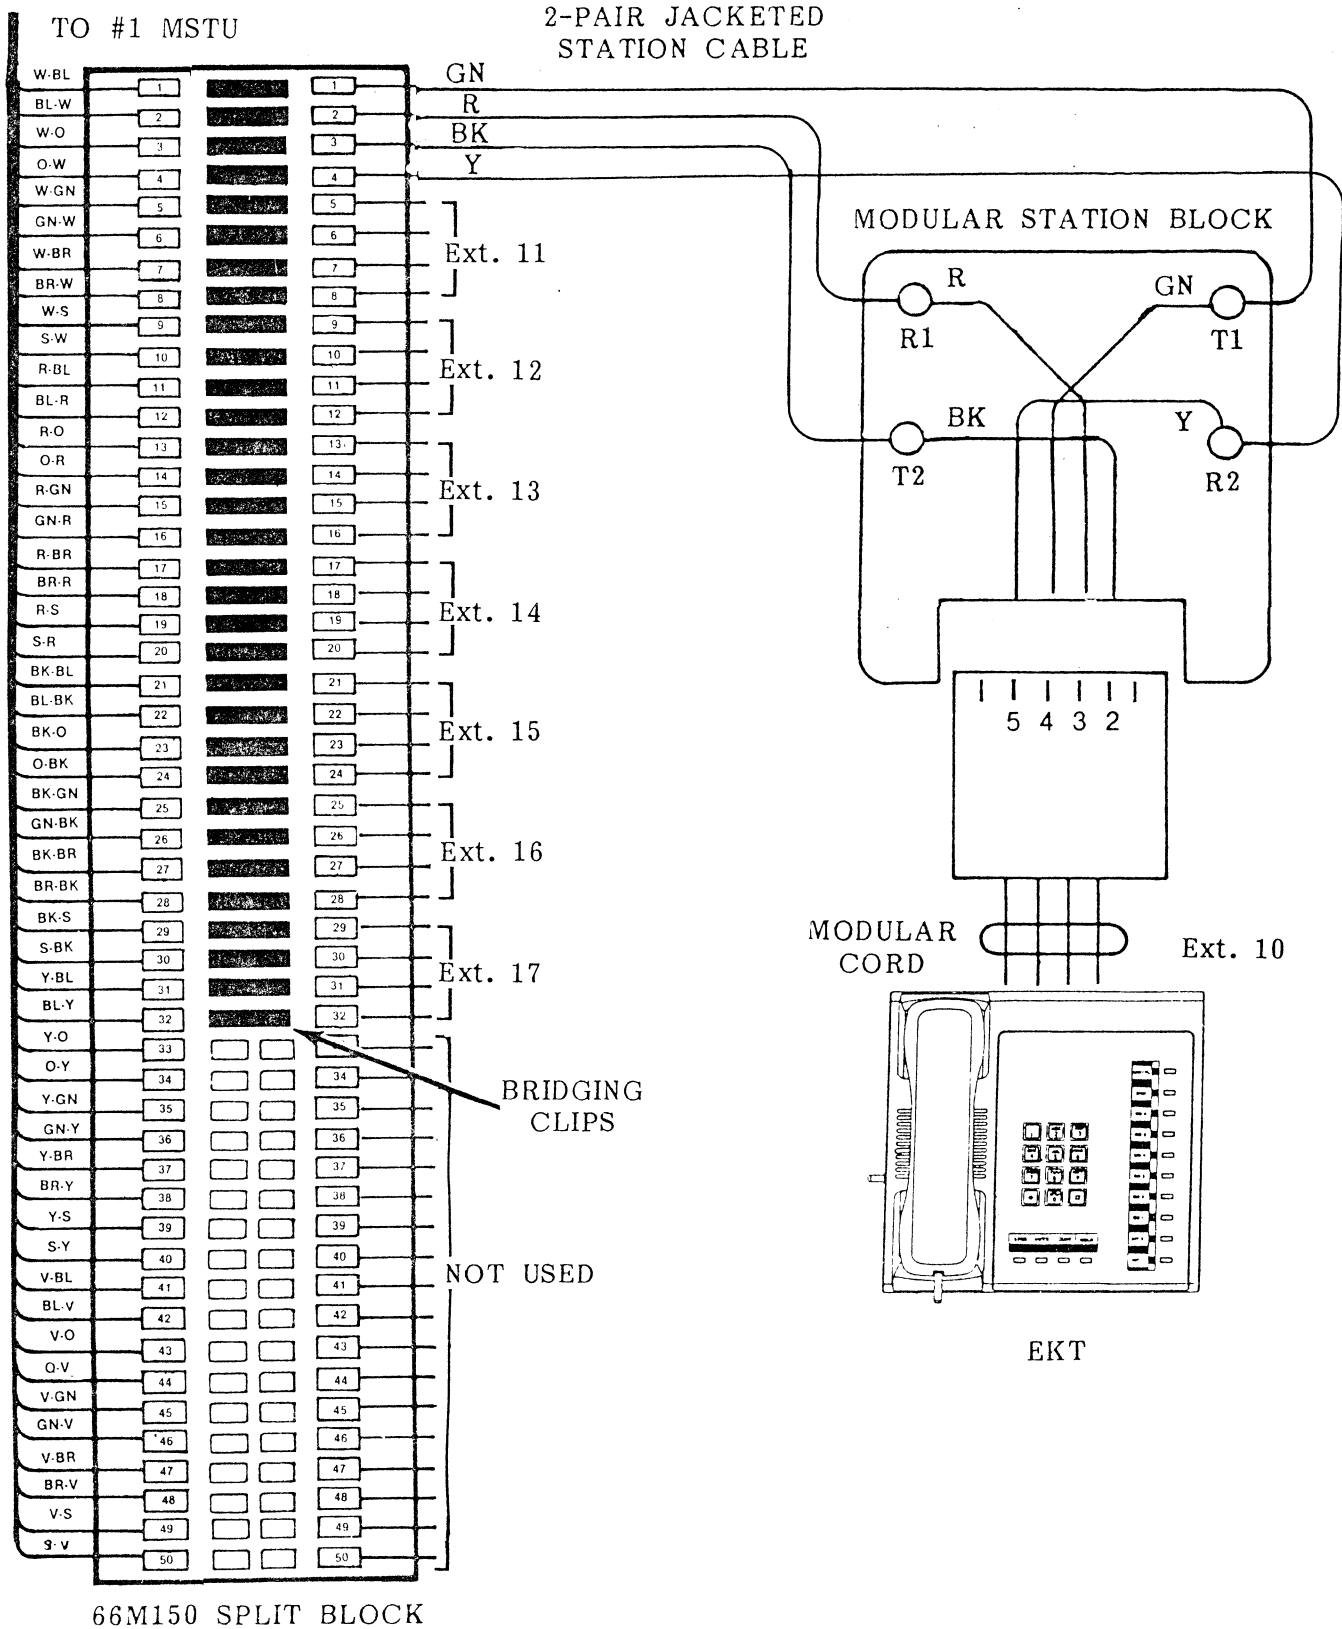

FIGURE 14
07.06 Use the industry-standard color code sequence and terminate the cables from the MSTU PCBs on the MDF blocks as shown in Figures 14 and 15. (Use one side of each block for each cable.)
07.15 Figures 14 and 15 show the EKT wiring arrangement.
07.16 The various manufacturers of modular station blocks have employed different color codes to indicate the sequence of pairs in their blocks. However, the color code most commonly used is shown in Figures 14 and 15. Verify the configuration of your modular blocks before connecting the station cables.
07.21 Intercom codes are assigned permanently to specific MSTU cable appearances in STRATA VI. Make sure the station cables are connected to the proper terminals (Figures 14 and 15).